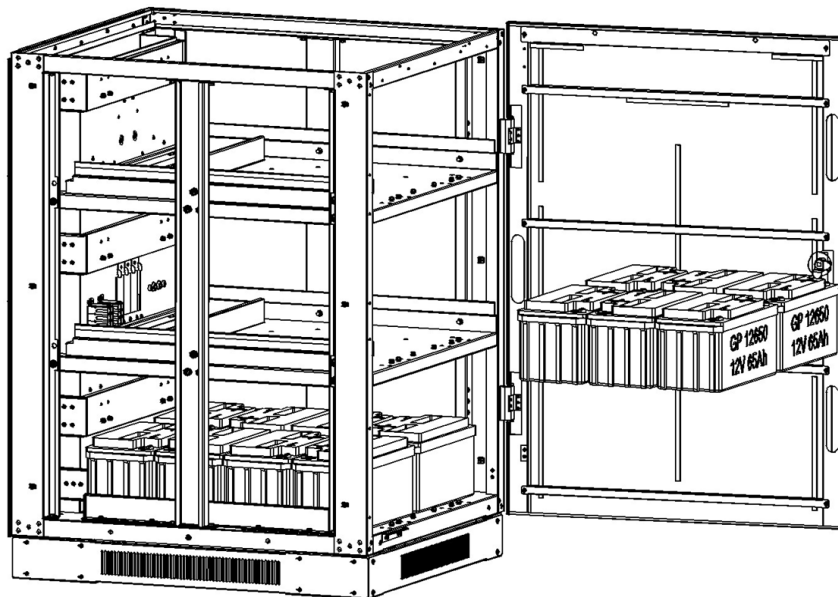
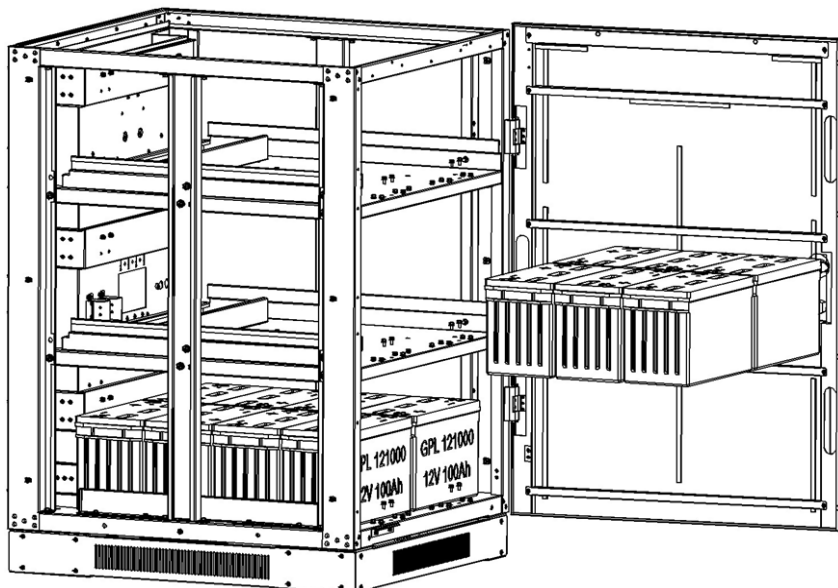

Figure 5-11: Model BP240V65-NIB
Figure 5-12: Model BP240V100-NIB
5. Install 6 battery packs in layer 2 (Figure 5-11: Model BP240V65-NIB or Figure 5-12: Model BP240V100-NIB).